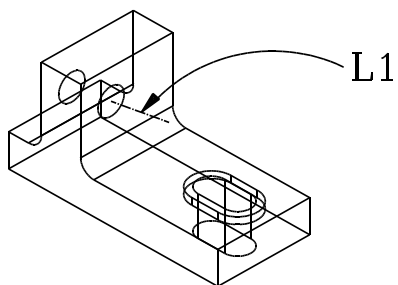

Figure 15
57. Click on SELECT, then click on L1 (the construction line). (See Figure 15.)